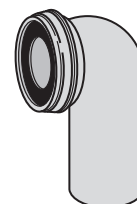

Fig.38 129.4.90 WC Connector
**129.4.90 WC Connector** (spigot outlet) (Fig.38)